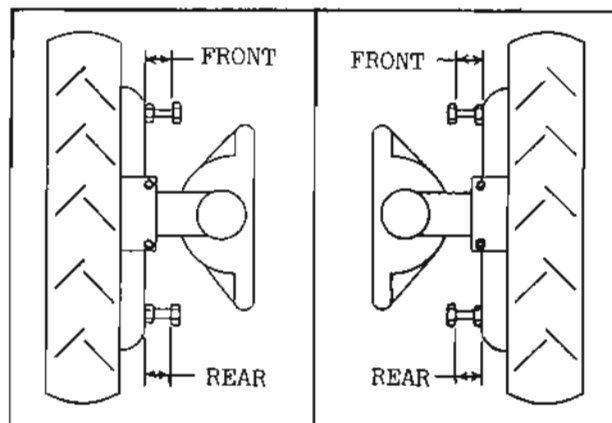

FIGURE 16
j) Adjust tractor steering stoppers inside front wheels as follows (fig.16):